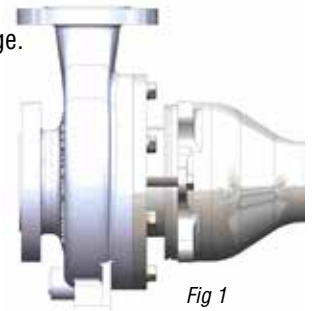

Fig 1
2. Using a 24 mm socket, unbolt the wet end (items 1-7) from the motor adapter by removing the (4) M16 hex head cap screws (item 15). Make sure the (2) jackscrews (item 14) are fully extended. Using a 24 mm socket turn the jackscrews clockwise until they are fully extended. See figure 1.